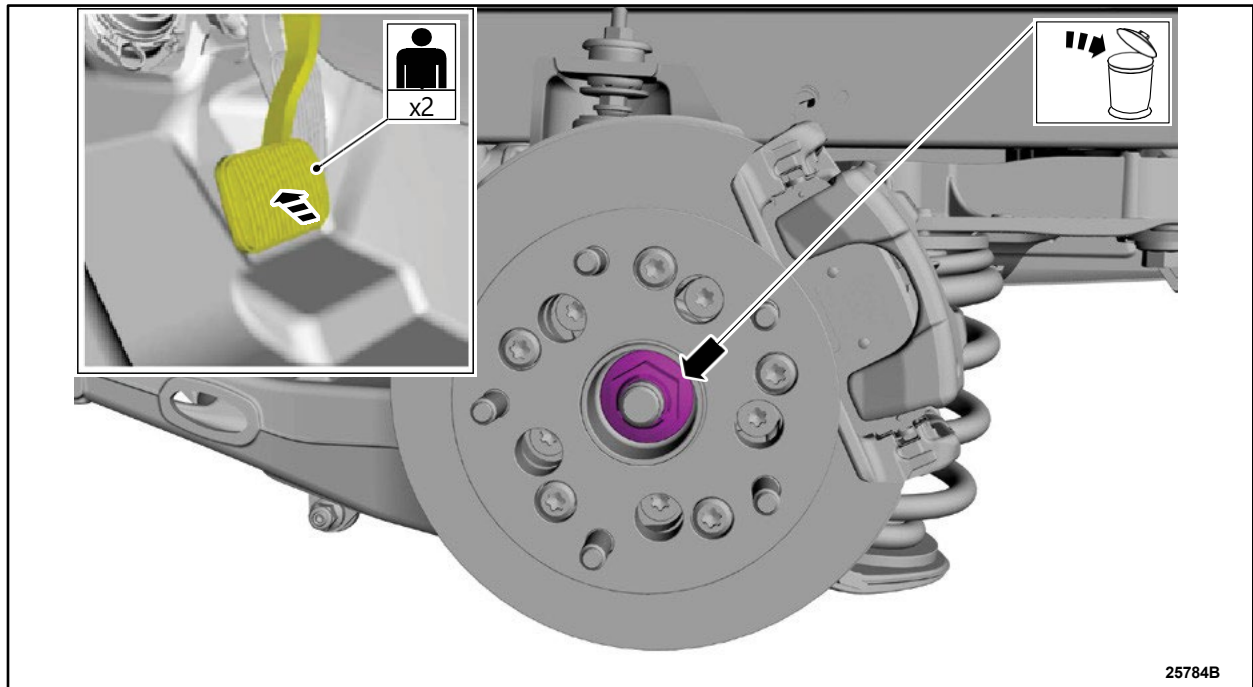

FIGURE 23
28. While an assistant applies the brake, remove and discard the wheel hub nut. See Figure 23.